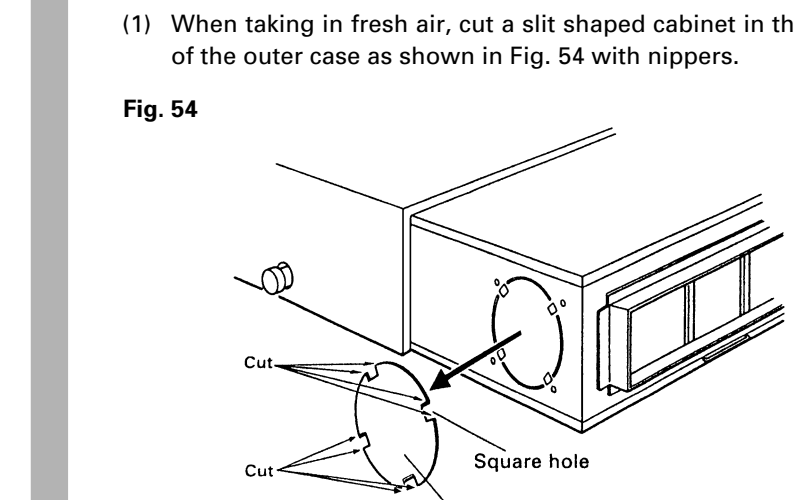

Fig. 54
- (1) When taking in fresh air, cut a slit shaped cabinet in the left side of the outer case as shown in Fig. 54 with nippers.